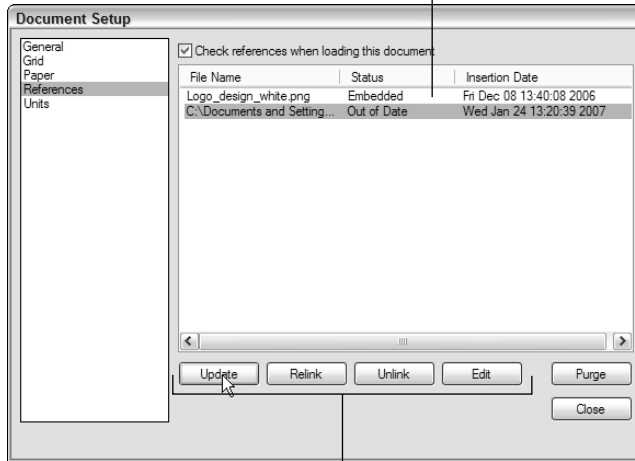

Figure 15-10:
- ✓ **Don't forget to check the document setup.** When a SketchUp model you've inserted is modified, LayOut knows about it — but it doesn't automatically update your views to reflect the changes. You have to do it yourself: Choose File⇨Document Setup and then click to open the References panel. (See Figure 15-10.) Select each model view you want to update, and then click the Update button.